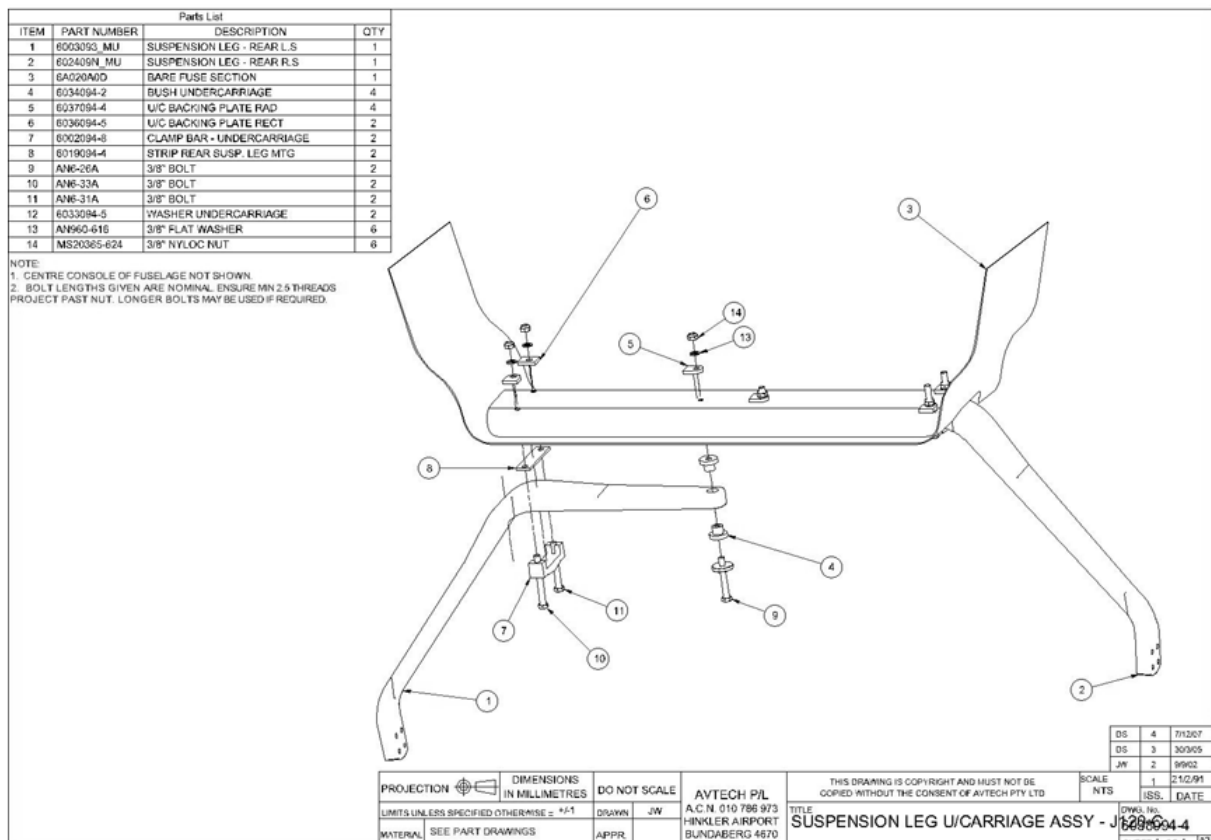

Figure 79 – Main Undercarriage (Type 1)
- For the “straight” undercarriage leg shown in Figure 79 follow the additional steps below:
- When inspecting the legs shown in Figure 79 pay particular attention to the area around each bend in the leg. Note that it is possible for this leg type to have internal damage which does not show to the surface. In this case the best indicator of the damage is that the damaged leg will have lost stiffness compared to the other side and so the aircraft will lean in the direction of the damaged leg. If required, legs can be returned to Jabiru Aircraft for testing.
6. For the leg shown in Figure 79, inspect the outboard clamp flock bed & re-flock if damaged.